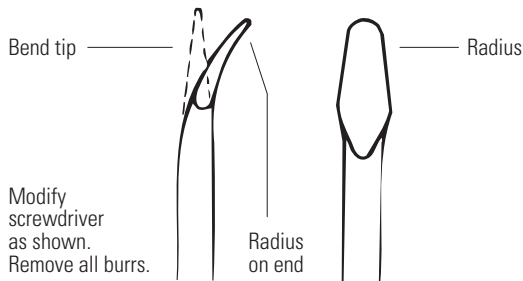
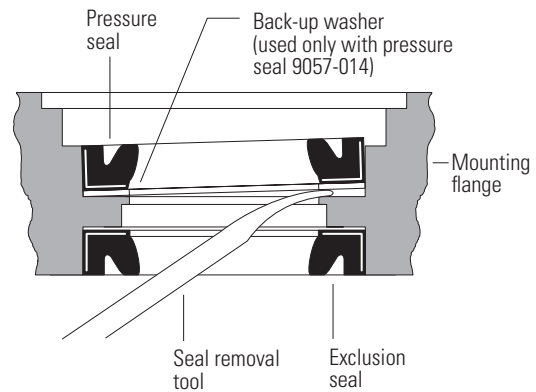
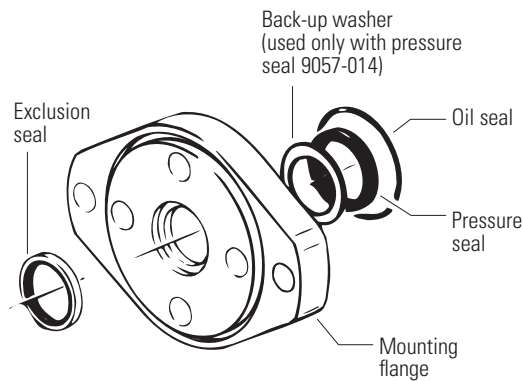

Figure 7
Figure 8
Figure 9
13. The exclusion seal, pressure seal and oil seal will come off with the flange. Use a seal remover tool, like the one shown in Fig. 7, to remove the dust seal and pressure seal, as shown in Fig. 8 and 9. Work nose of tool between pressure seal and flange. Pry seal partway. Remove tool and repeat at a point 180° away. Push seal completely out of cavity, see Fig. 9.